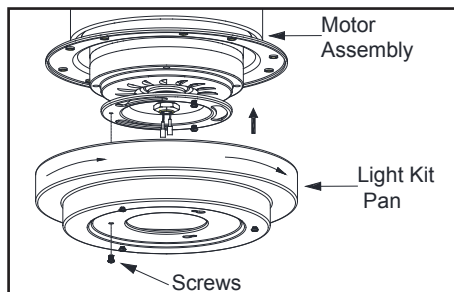

Figure 12
1. Remove one screw from the black bracket below fan motor assembly, loosen but do not remove the other two screws. (Figure 12)
2. Push the light kit pan up to the fan motor assembly so that the two loosened screw heads fit into the keyhole slots. Turn the light kit pan clockwise. Re-install the screw that was removed in step 1. Make sure all the screws are firmly tightened. (Figure 12)